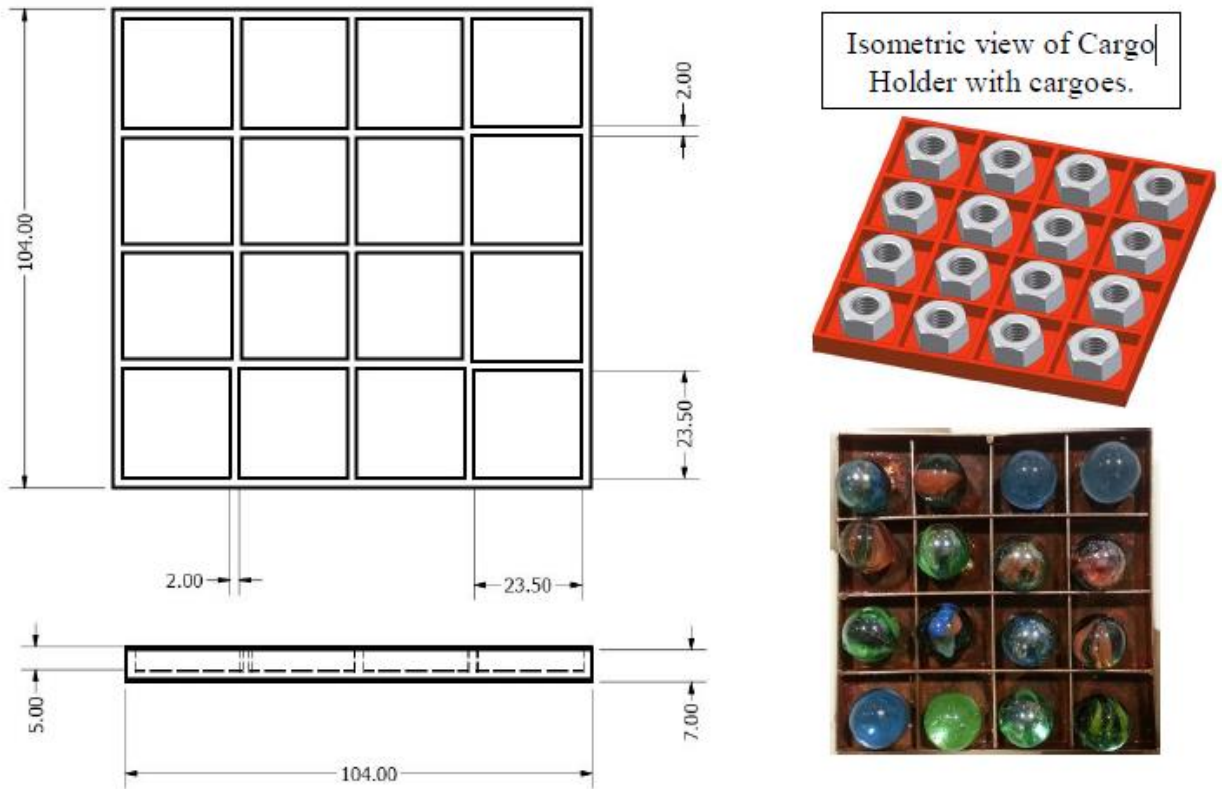

Figure 3 : Cargo Holder Dimensions (in mm)
- 3.5. The cargo holder will be a square of 100mm sides with the sixteen objects arranged in a grid. The cargo holder will be made from a non-magnetic material. See Figure 3.